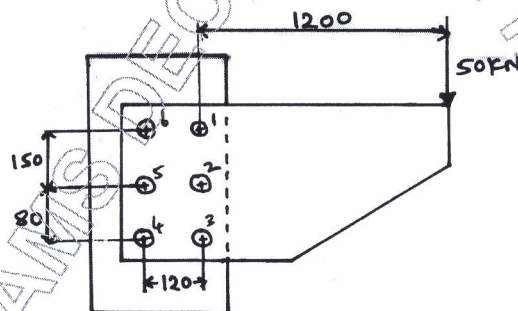

Fig.Q7(b)
- b. Determine the diameter of rivet for the joint shown in Fig.Q7(b). The allowable stress in the rivet is  $100 \text{ N/mm}^2$ .